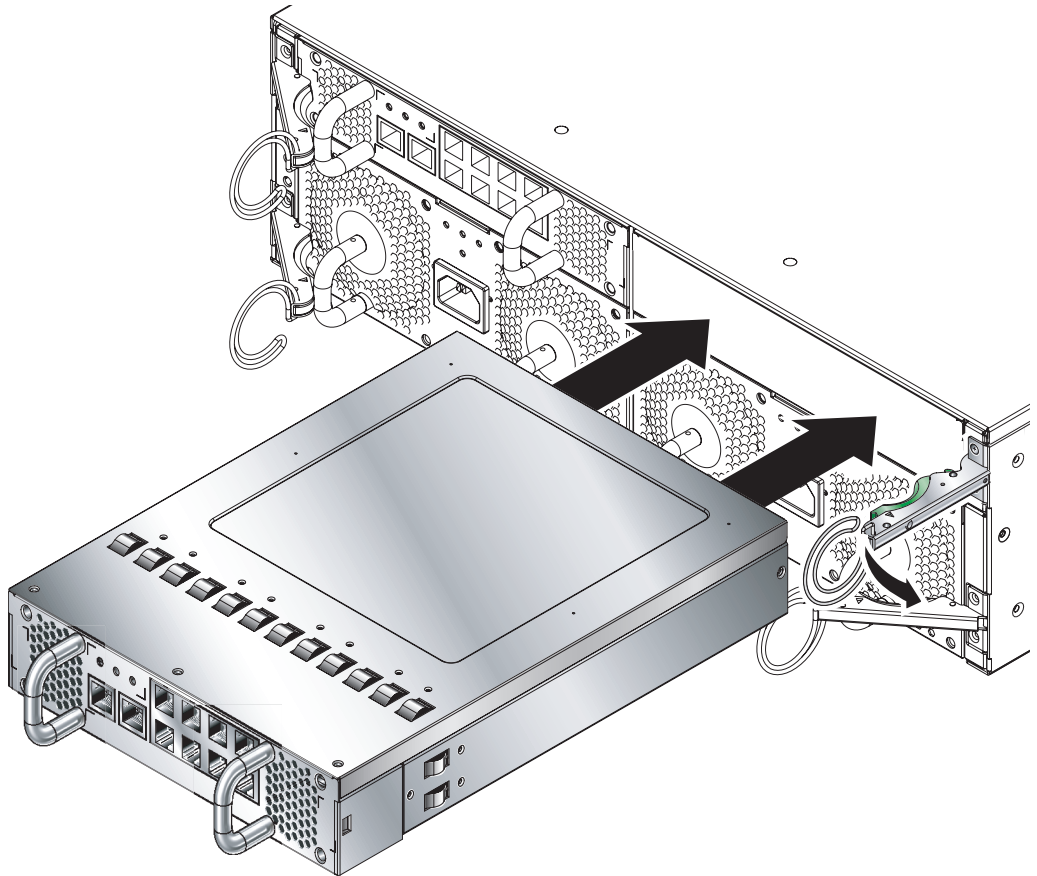

FIGURE 4-16 Aligning the SSC Before Insertion
2. Ensure that the chassis ejector lever is opened fully and does not obstruct the chassis opening (FIGURE 4-16).